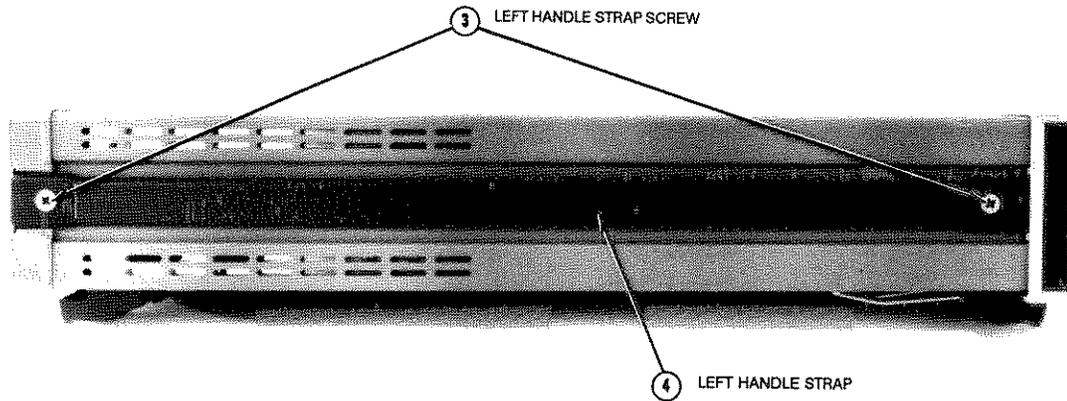

Figure 3-2. Remove/Install Left Side Handle
5. Refer to Figure 3-2. Turn the instrument so its left side faces you.
17. Refer to Figure 3-2. Reinstall the left side handle strap. Use the #1 pozidriv to reinstall the side handle strap screws.